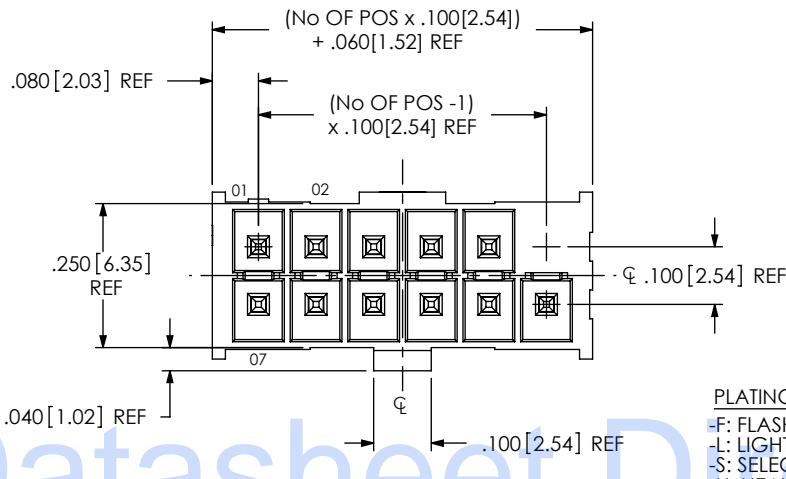

FIG 1
- P: POLARIZATION (SEE FIG. 1) (USE IPL1-XX-D-P) (NOT AVAILABLE W/ -K, OPTIONS)
[DIFFERENT AS SHOWN, OTHERWISE SAME AS FIG. 1]
(DIFFERENT AS SHOWN, OTHERWISE SAME AS FIG. 1)